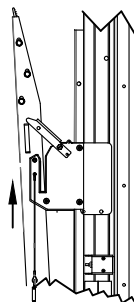

Figure 21: Step 15.
- Step 15. Raise the folded up platform until the platform latch ear opens the latch flipper and is above the latch slot (Figure 21).